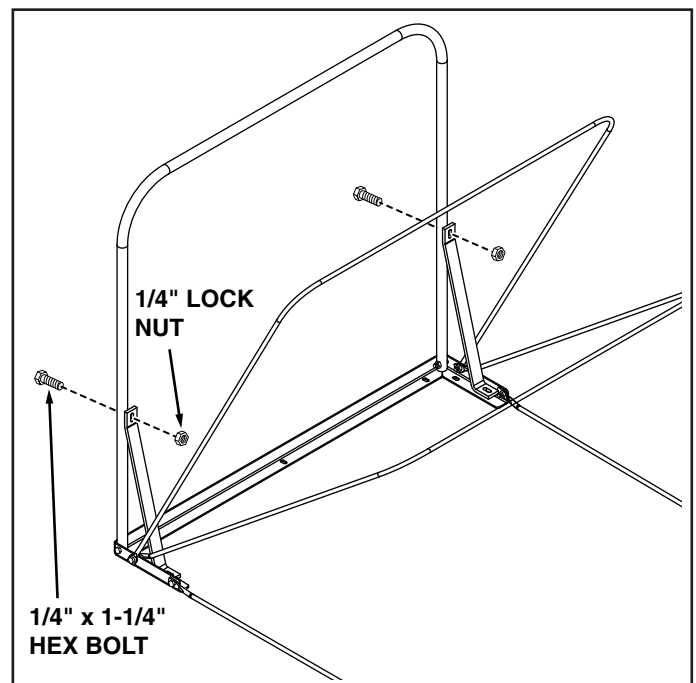

FIGURE 20
- Attach the braces to the front support tube using two 1/4" x 1-1/4" hex bolts and 1/4" lock nuts. **TIGHTEN. Do not over tighten** and compress support tube. See figure 20.